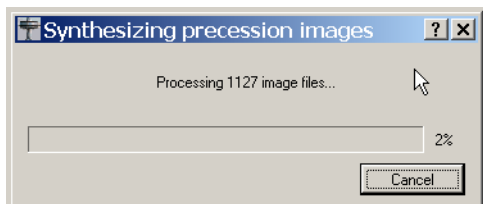

Figure 8.24 - Progress bar
4. A progress bar will appear (Figure 8.24) and after approximately 5–10 minutes (depending on the number of “.sfrm” files read) an image will appear on the screen. Display other planes by clicking on the calculated images to the bottom right of the work area or by browsing as usual with the View plug-in.